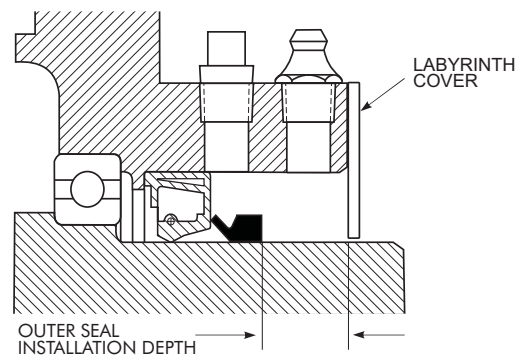

Figure 4
2. Remove labyrinth cover (See Figure 4) from backstop. Clean cam and hub face with solvent and remove all sharp edges.
5. **Outer Seal** — Apply a thin layer of NLGI#2 grease to the outward face of the inner seal. Position the new outer seal on the inner cam with the lip facing inward (See Figure 4). Stretch the seal around the inner cam moving around the diameter evenly until the outer seal is installed to the depth as found in Table 1.